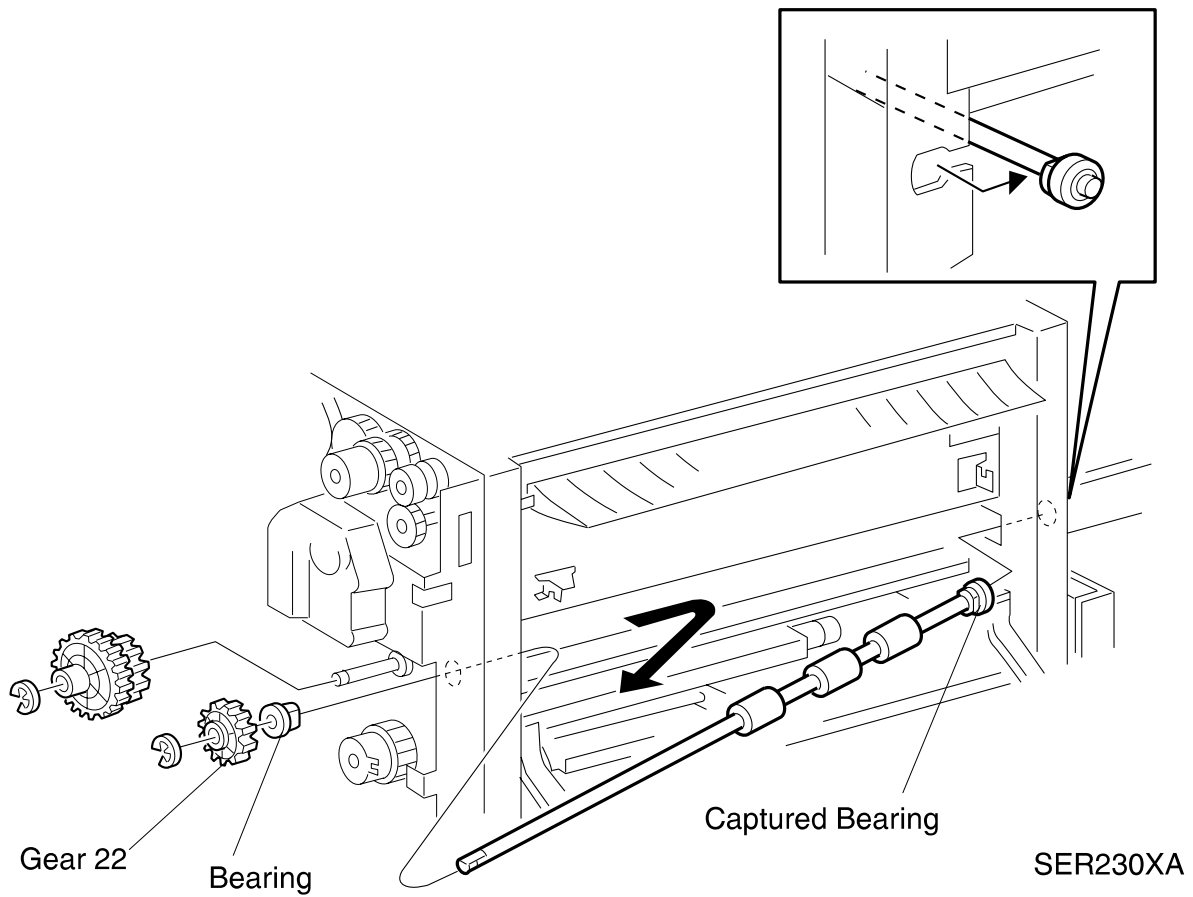

Figure 3
10. Remove the E ring securing Gear 22 to the Take Away Roll shaft (Figure 3).
1. Slide the captured bearing end of the Take Away Roll shaft into the bearing hole at the front of the HCF frame (Figure 3).